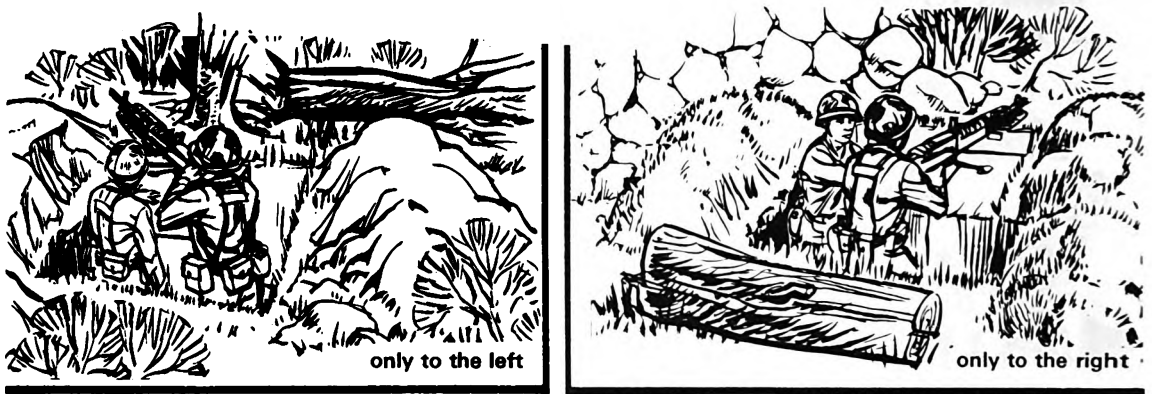

Figure 5.
4. In some positions, you may not be able to fire to both sides of the frontal parapet. If this is the case, modify the position accordingly (figure 5).